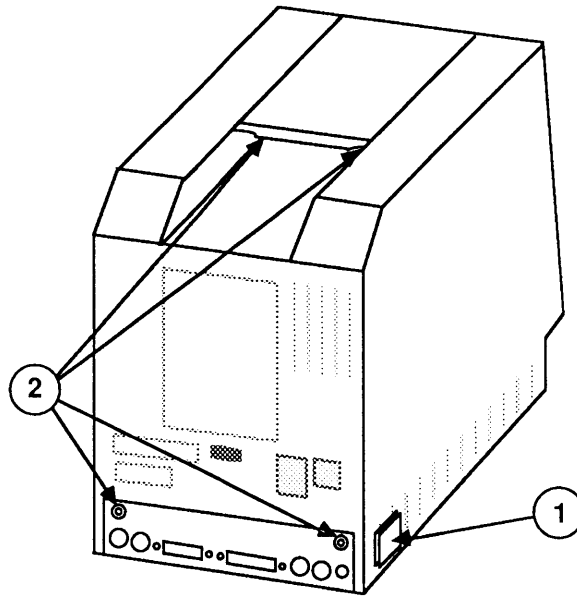

FIGURE 1
4. If a reset/interrupt switch (Figure 1, #1) is present, pry it off with a small flat-blade screwdriver.
6. Use the Torx screwdriver to remove the four case screws (Figure 1, #2).